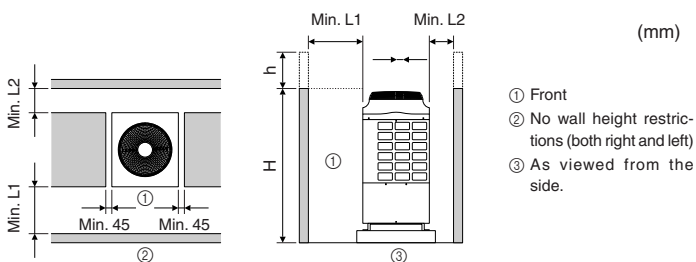

Fig. 2-6
(3) If the intake air enters from the right and left sides (Fig. 2-6)